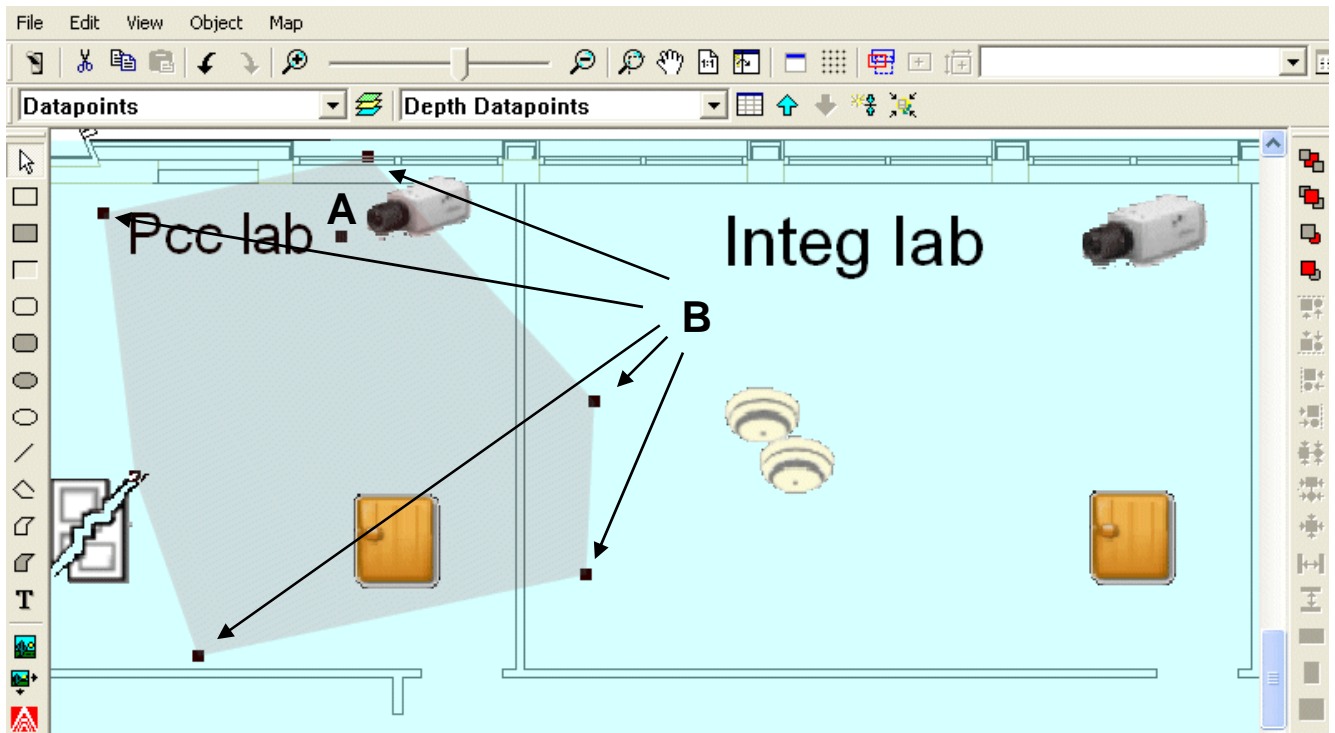

Fig. 12 Area controls
A polygon appears indicating the camera coverage area. (See Fig. 12.)
3. Use the interior squared dot of the polygon to move and orient the coverage area. (See “A” in Fig. 12.)
4. Use the peripheral squared dots to shape the polygon to represent the actual camera view. (See “B” in Fig. 12.)